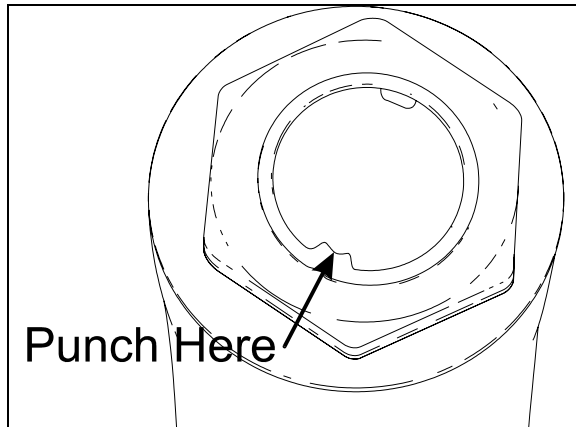

FIGURE 11: FIXING NUT PUNCH MARK 16098
**Caution:** Lock nut with sector shaft using a punch mark into the groove (Refer to figure 11).